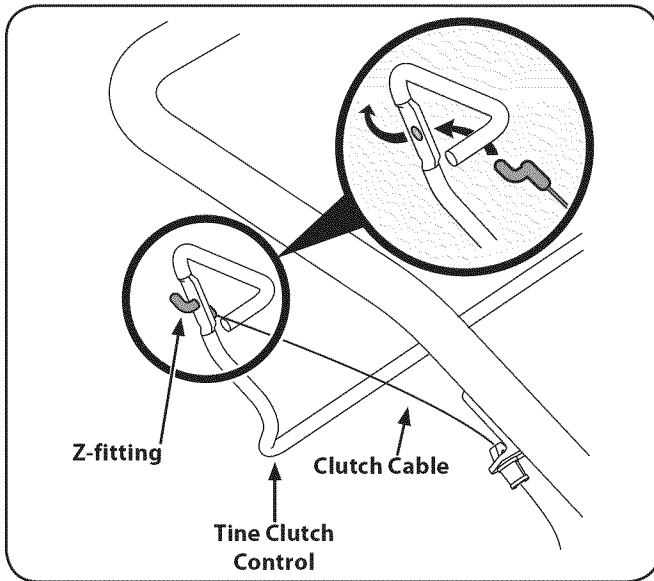

Figure 1-4
5. Insert the Z-fitting on the clutch cable into the hole on the tine clutch control. Hook the "Z" end into the opening from the inside to the outside as shown in Figure 1-4.